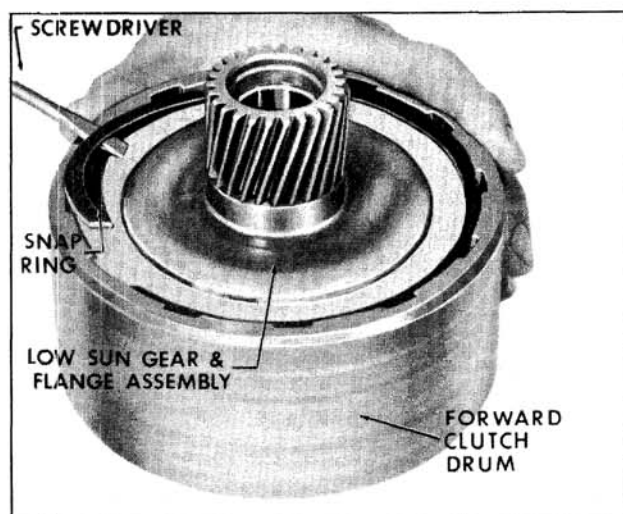

Fig. 6-428 Removing Snap Ring
1. Remove low sun gear and flange assembly retainer snap ring. (Fig. 6-428)